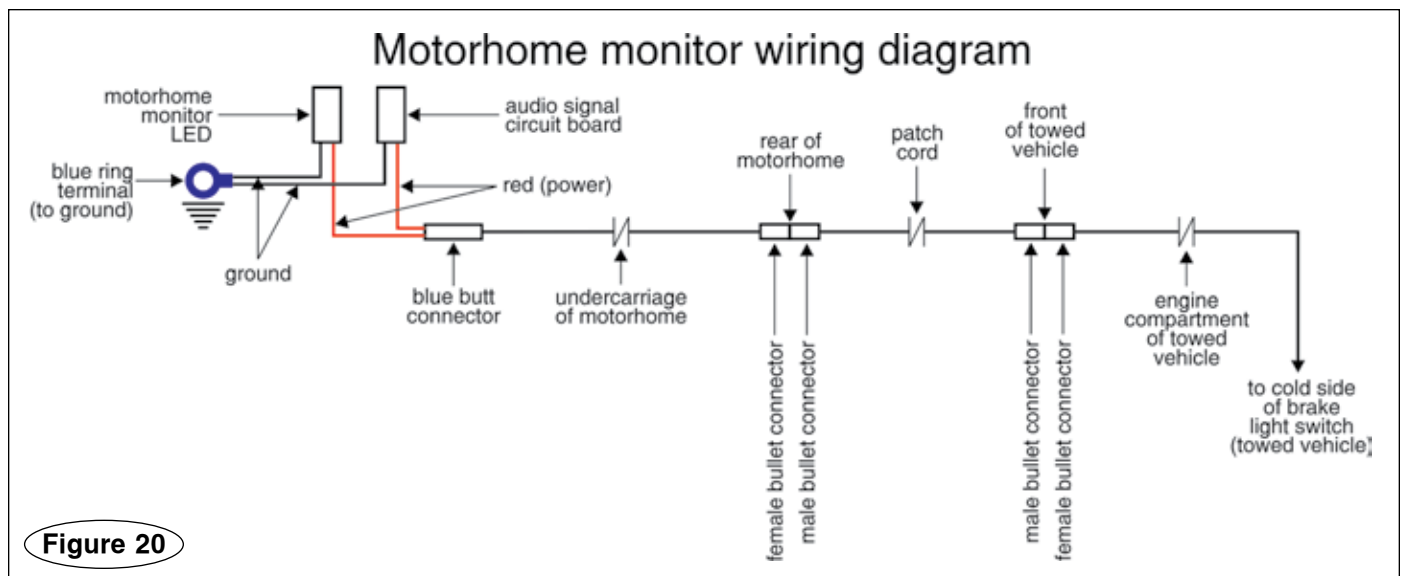

Figure 20
8. With one or more wire ties, attach the audio signal circuit board (Figure 20) to the underside of the dash,
9. Connect the monitor LED, audio signal circuit board and the black wire from the rear of the motorhome as shown in Figure 20.